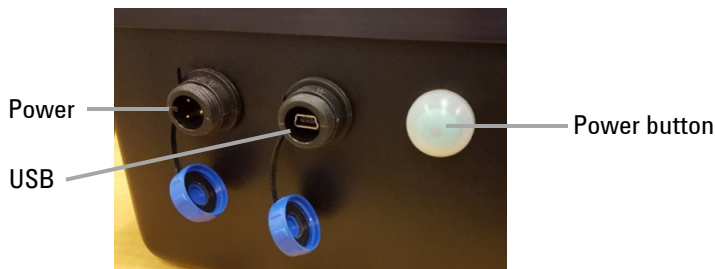

Figure 1. Attaching the power cord
- 2 Connect the other end of the power cord to the power source. The appropriate power supply for your location will be provided with the system. When the system is not in field use, keep it plugged in to the local AC power to ensure a fully-charged battery pack (see Figure 1).